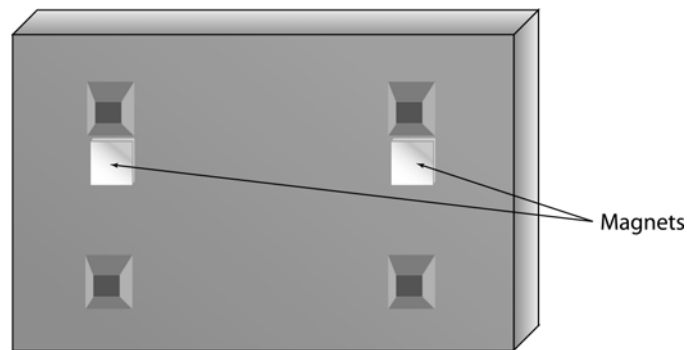

Figure 6. Magnet locations
- Apply self-adherent rubber feet to the bottom of the Switch near each of the four corners. See Figure 6.
- If applying Switch to metal surface, install magnets as shown in Figure 6. Switch may then be installed on a metal surface.